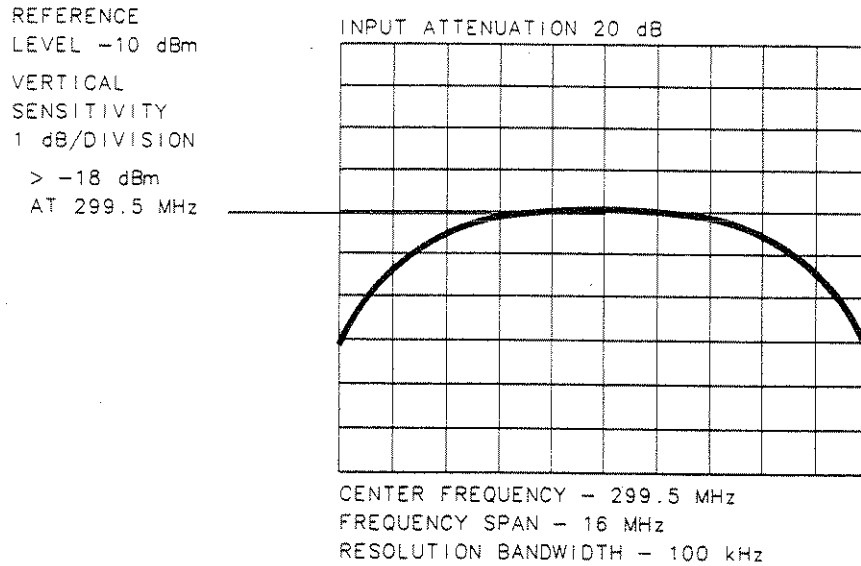

Figure 5-7. 2050 MHz Passband
4. Check that the passband displayed on the spectrum analyzer is flat within 0.4 dB for 2 MHz on either side of the 299.5 MHz center frequency. Passband points at 8 MHz on either side of the center frequency should be within 1 dB of each other. (See Figure 5-7.) If these conditions are met, no adjustment is necessary.